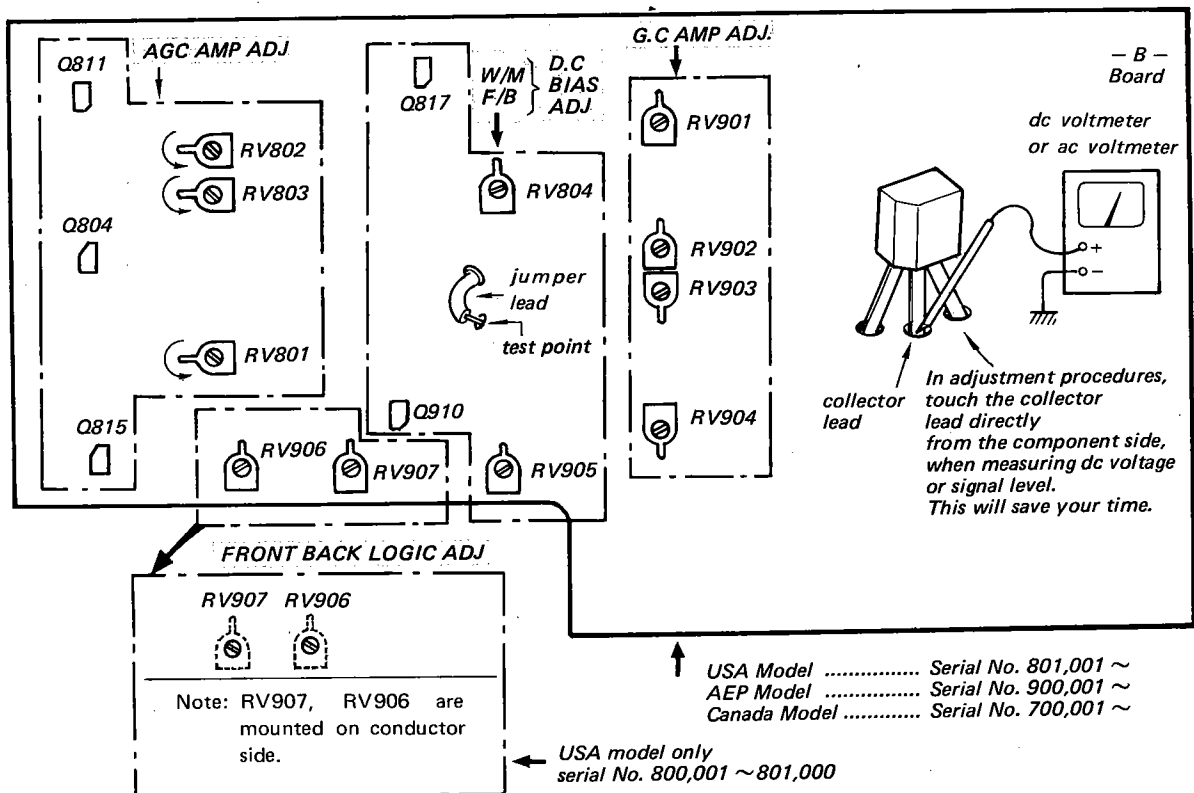

Fig. 3-4. Adjustment parts location
1. Disconnect a jumper lead wire at test point on the B board shown in Fig. 3-4.
Note: Adjustment parts are mounted on the B board shown in Fig. 3-4.
2. With no signal in, measure the dc voltage at Test Point on the B board shown in Fig. 3-4. It should be 5.2 ~ 5.8 V. Record the reading.
3. Adjust RV804 and RV905 for the same dc voltage obtained in Step 2 at Q817 and Q910 collector respectively. Touch the collector lead directly as shown in Fig. 3-4.
Note: Perform the Front-Back Logic Adjustment after completing this adjustment or vice versa. Adjustment parts are mounted on the B board as shown in Fig. 3-4.
1. Disconnect a jumper lead wire at test point on the B board shown in Fig. 3-4. This stops logic operation.
2. Turn RV801, RV802 and RV803 fully in the direction shown by the arrow in Fig. 3-4.
2. Measure the output level at Q804 collector (see Fig. 3-4) and adjust RV803 for 4 to 5 dB reading. Record the reading.
4. Measure the output level at Q811 and Q815 collector (see Fig. 3-4) and adjust RV801 and RV802 for the same reading obtained in the step 2.
Note: Use SQ checker or signal mode selector. Perform AGC Amp Adjustment after completing this adjustment or vice versa. Adjustment parts are mounted on the B board as shown in Fig. 3-4.